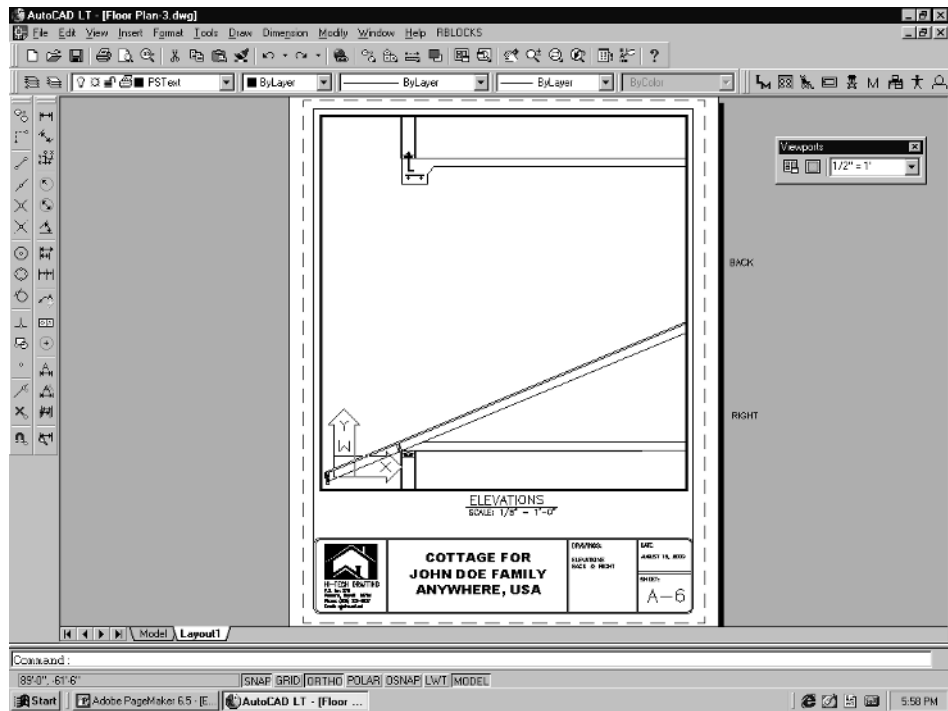

Figure 5-8
7. Change to floating model space by picking **PAPER** on the status bar. This changes to read **MODEL**. Change the scale to $1/2" = 1'$. The drawing will zoom in because you have just changed the scale from a tiny $1/8" = 1'$ to a fairly large $1/2" = 1'$. Figure 5-8 shows the $1/2"$ scale drawing.